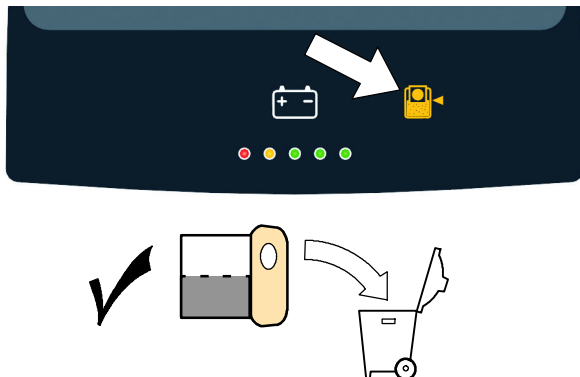

FIG. 13
4. The check dust bag indicator will periodically light up on the control console alerting operator to check bag for fullness. Replace the bag when it becomes half full (Figure 13). Restart the key to reset the check bag indicator.